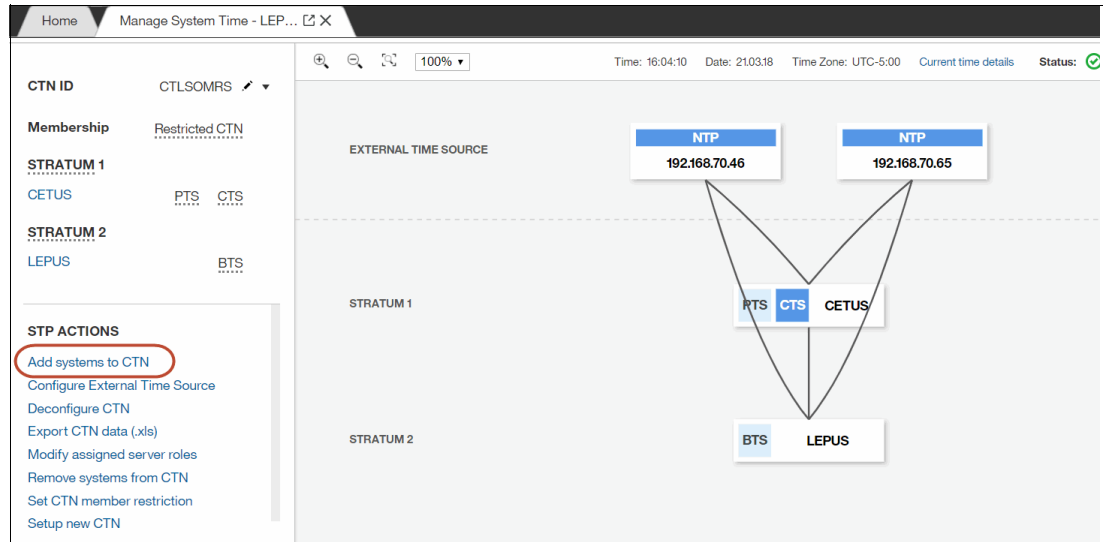

Figure 8-54 Adding systems to CTN
1. Open the Manage System Time task from the HMC, and select **Add systems to CTN** from STP ACTIONS (see Figure 8-54).